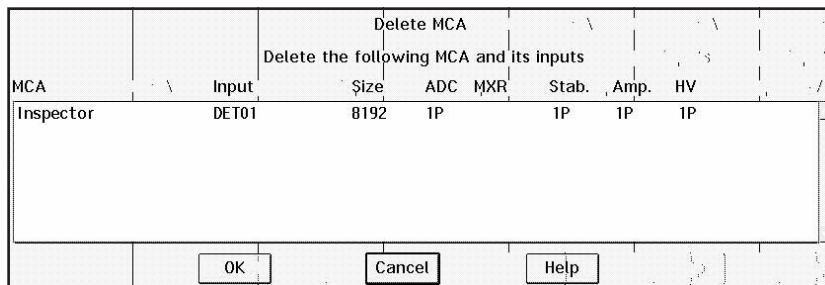

Figure 13 The Delete MCA Dialog
2. Clicking on the **Delete MCA** command in the **Edit** menu. When you do that, the Dialog Box shown in Figure 13 will pop up. Click on **OK** to remove the entry.